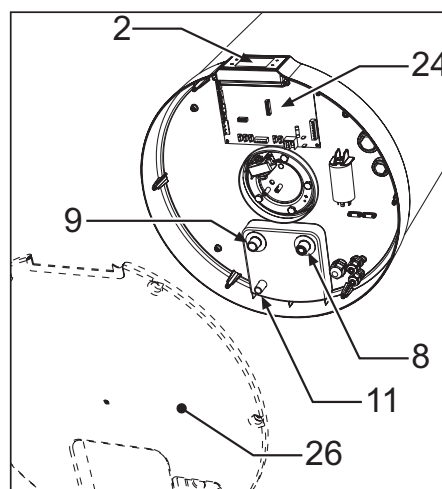
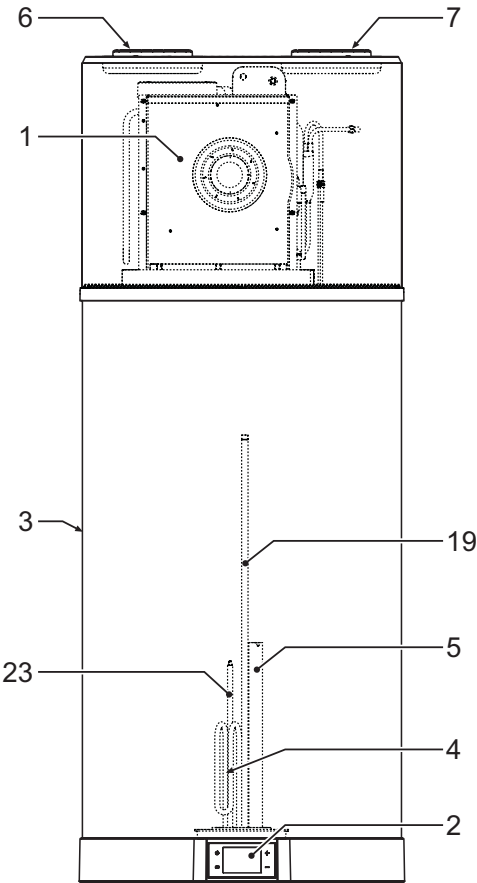
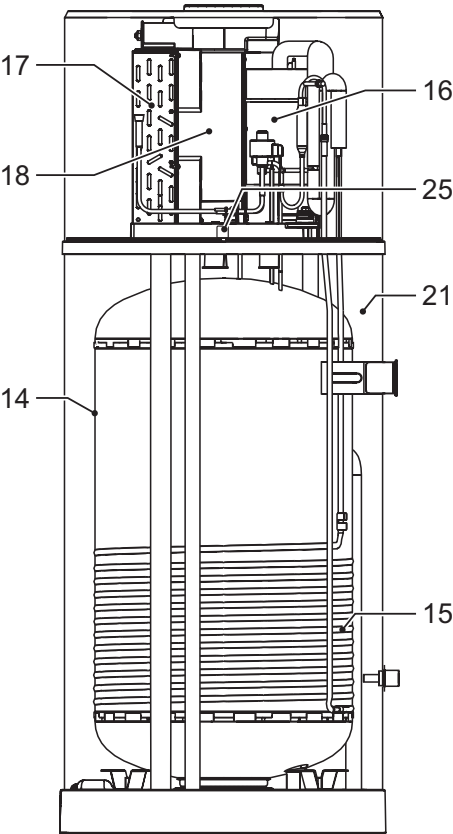

fig. 20
fig. 21
fig. 22
| REF. | DESCRIPTION (fig. 20 - fig. 21 - fig. 22)                                                  |
| F (ref. 8 - fig. 20)  | 1/2"G  | 163   | 163    | mm |
| G (ref. 9 - fig. 20)  | 1/2"G  | 163   | 163    | mm |
| H (ref. 11 - fig. 20) | 16 mm* | 68    | 68     | mm |